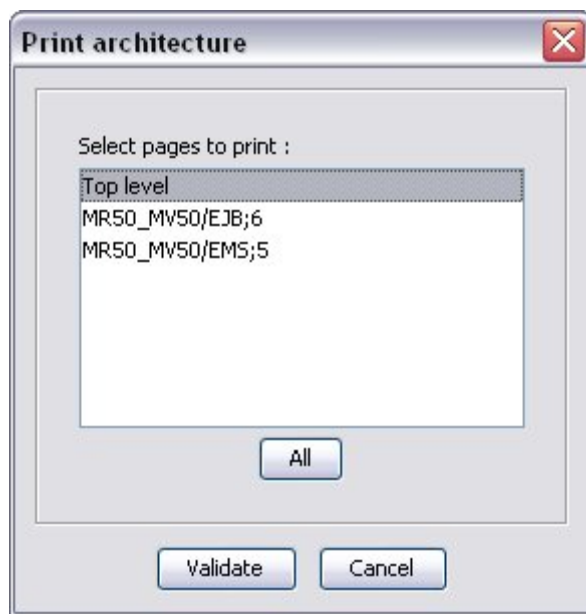

Figure 77 : Print architecture window
3. Select the **File – Print** menu or click on icon  to print selected system (Figure 77);